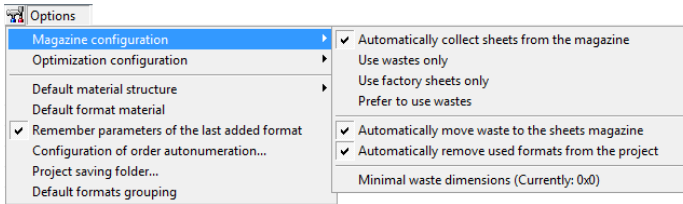

Fig. 32 – options of configuration of the magazine with enabled ‘Automatically collect sheets...’ function
- ‘Automatically collect sheets from the magazine’ – causes automated collection of optimal quantity of boards from the sheet magazine to the current order. You can set the priorities of sheet collection, such as: **only full sheets** (factory boards), **only wastes** or **wastes first** (these options become available after selection of the ‘Automatically collect...’ option – Fig. 32). If you do not define the priority, the program will collect the most optimal number of boards, both factory sheets and wastes. When you enable the automated collection, the list of sheets disappears from the CAD Cut main window.